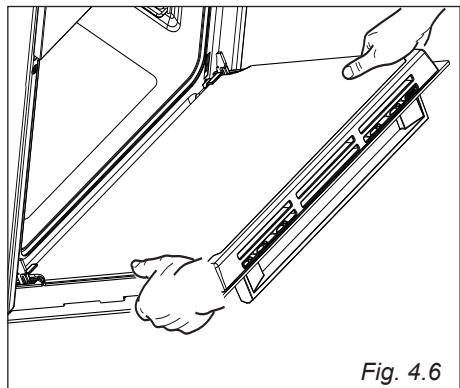

Fig. 4.6
- Hold the door as shown in fig. 4.6.